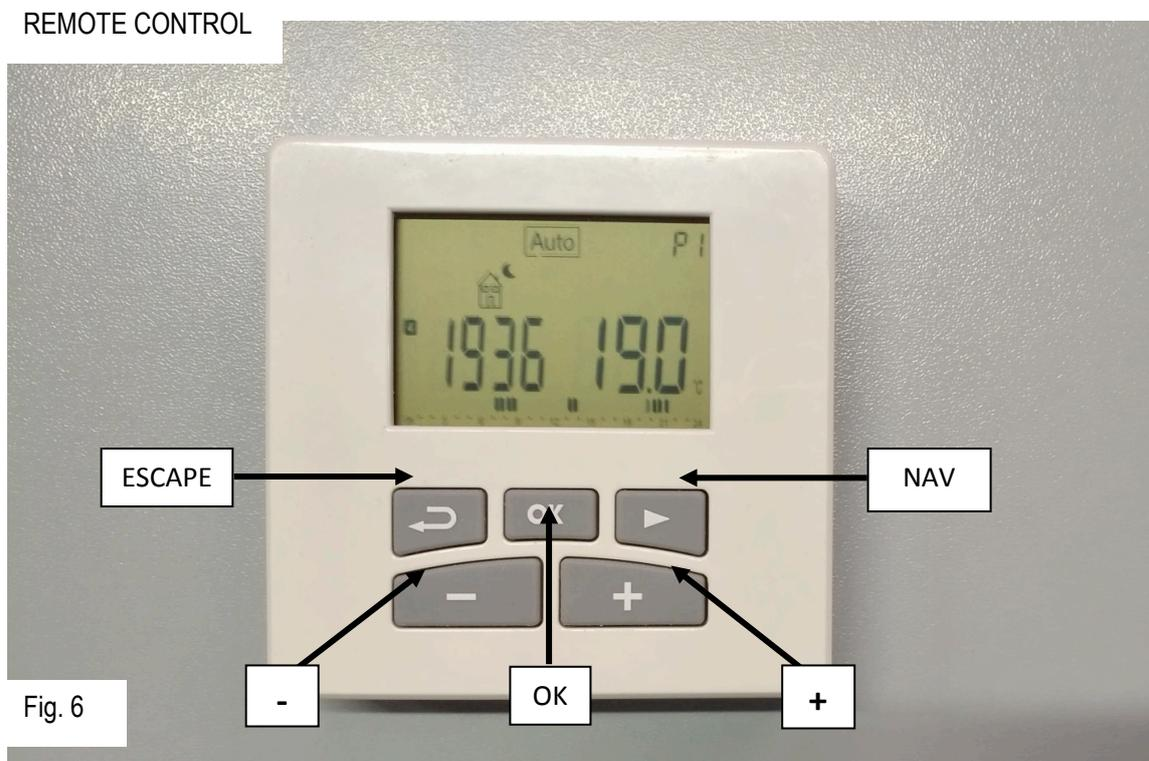

Fig. 6
- 2) *hold down the (▶) key on the remote control for 5 seconds (Fig. 6). After that time, the message "rF INI" will appear on the screen of the remote control, as in Fig. 7.*